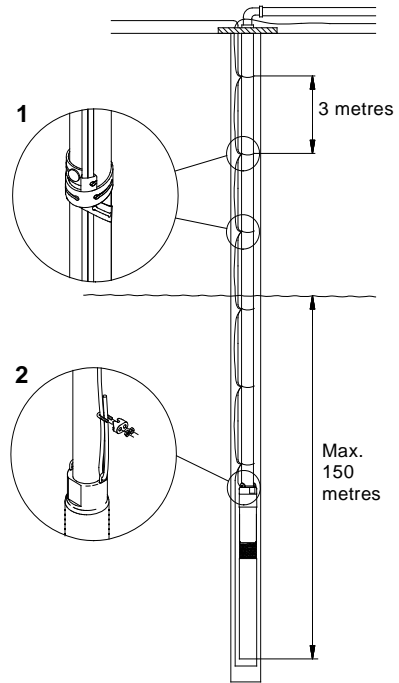

Fig. 10
Figure 10 shows a pump installation with indication of:
Cable clips must be fitted every 3 metres, see fig. 10.
Maximum installation depth below the static water level: 150 metres, see fig. 10.
It is recommended to secure the pump by an unloaded straining wire, see fig. 10, pos. 2.